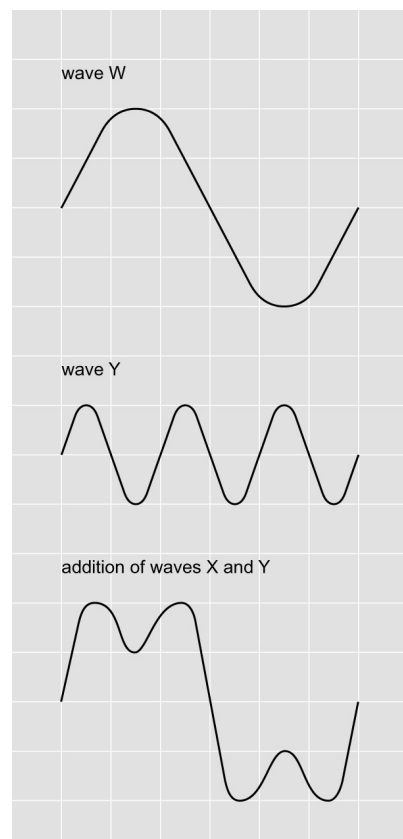

Figure 3
- It is easiest to draw this diagram using metric graph paper. Urge the students to draw the diagram carefully. Refer to **Figure 3**. Assuming that X is the fundamental frequency, then Y is the third harmonic and the addition of X and Y shows a more complex waveform and a higher quality sound.